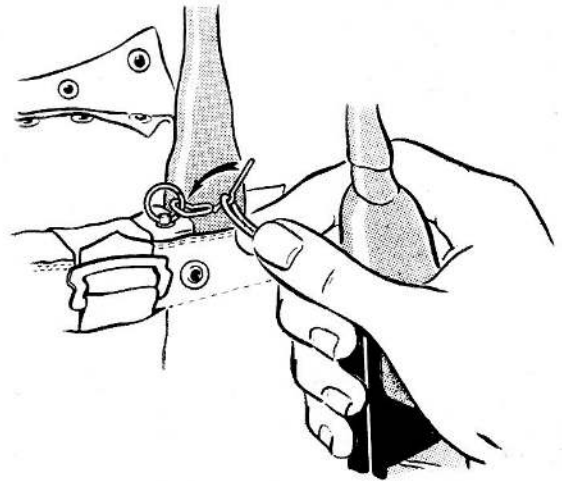

Fig. 14. Connecting the beacon to the battery switch pin—fourth stage
(5) Place the loop at the end of the cord over the beacon switch release pin as shown in fig. 14 and position the pin